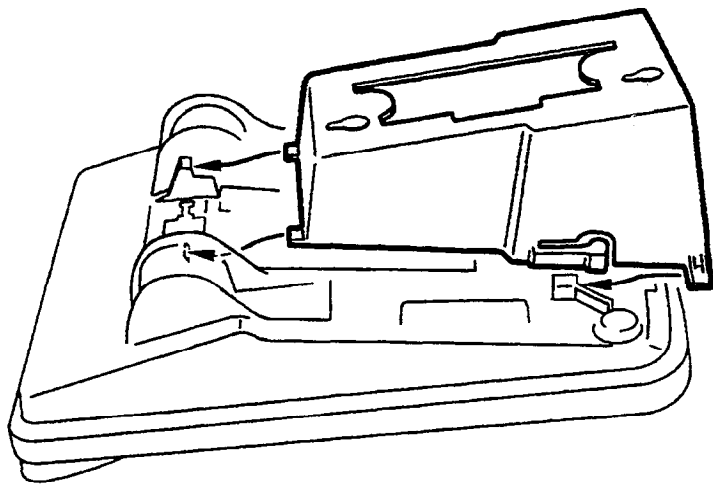

Figure 4-16 Installing the Multiline Terminal on the WMU-W (BK)/(SW) Unit
5. Install the Multiline Terminal on the wall mounting unit by aligning the notches on the bottom of the Multiline Terminal with the rails on the wall mounting unit. Refer to Figure 4-16 - Installing the Multiline Terminal on the WMU-W (BK)/(SW) Unit.